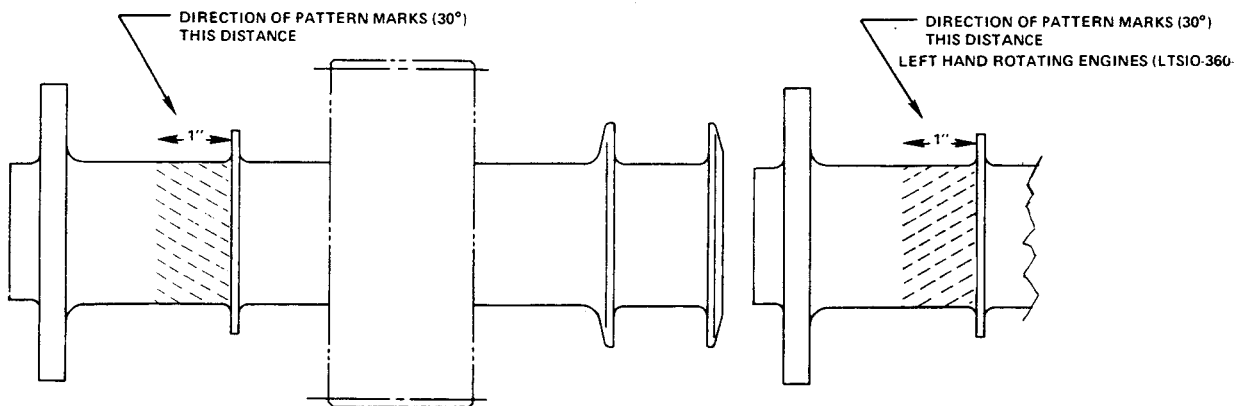

FIGURE 1
- D. Remove any plating in the 1" area pointed out in Figure 1 by holding a piece of very fine emery cloth around the shaft and rotating the engine with the starter. This should blend the finish uniformly without leaving any lines (scratches). Top spark plugs should be removed to allow smooth, even rotation during the polishing operation.
- E. Apply helix as indicated in Figure 1 using a strip of 180 grit emery cloth approximately 1/2" wide. Do approximately 1/4 of the surface indicated in Figure 1 at a time, stroking the cloth outward toward the propeller flange in the direction of rotation (CCW towards you using maximum hand pressure) which should result in a 30 degree pattern similar to that illustrated in Figure 1. After doing the first portion, engage the starter just long enough so that the next portion is visible. Apply the same pattern again and continue completely around the crank or prop shaft in this manner.
NOTE: On left hand rotating engines (LTSIO360E) the helix must be applied in the opposite direction as shown in Figure 1. Stroke the strip of emery cloth outward toward the flange in the direction of rotation...(CW toward you using maximum hand pressure.)